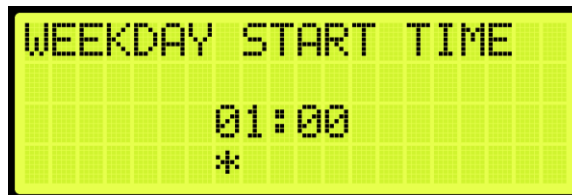

Figure 267: WEEKDAY START TIME Menu
8. From the WEEKDAY START TIME menu, set the start time of the hall call security (See Figure 267).